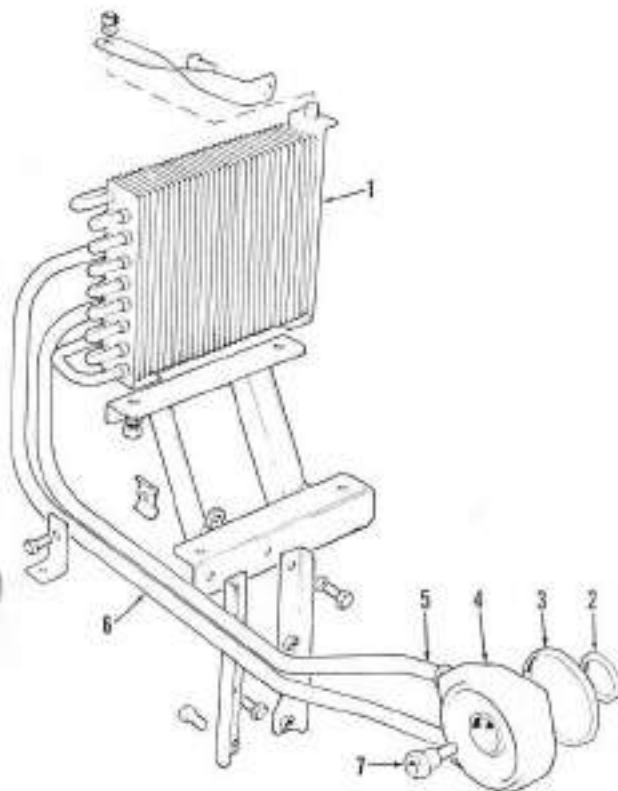

Fig. 53A—View showing engine oil cooler and mounting bracket arrangement used on 1410 and 1412 tractors with single hydraulic pump.
**91A. Model 1410 and 1412 tractors** are equipped with engine and transmission oil coolers which are mounted in front of radiator. Mounting position of engine oil cooler depends on whether tractor is equipped with a single or tandem hydraulic pump as shown in Figs. 53A and 53B.